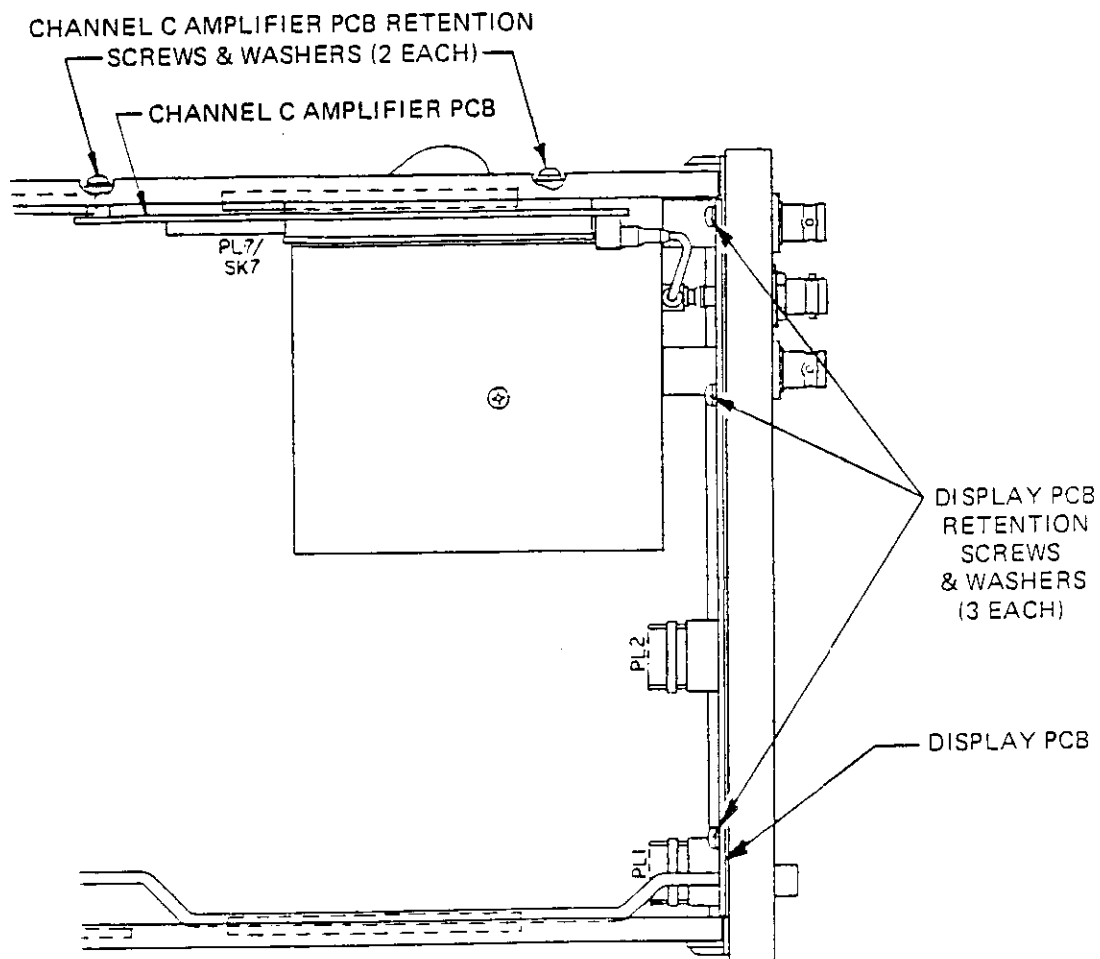

Figure 6.11 - Channel C Amplifier Board and Display Board Removal
- c. Remove the two screws and washers securing Channel C's amplifier PCB to the right-hand side frame. See Figure 6.11
- c. Remove the three screws and washers securing the display board to the front panel (see Figure 6.11) and remove the board